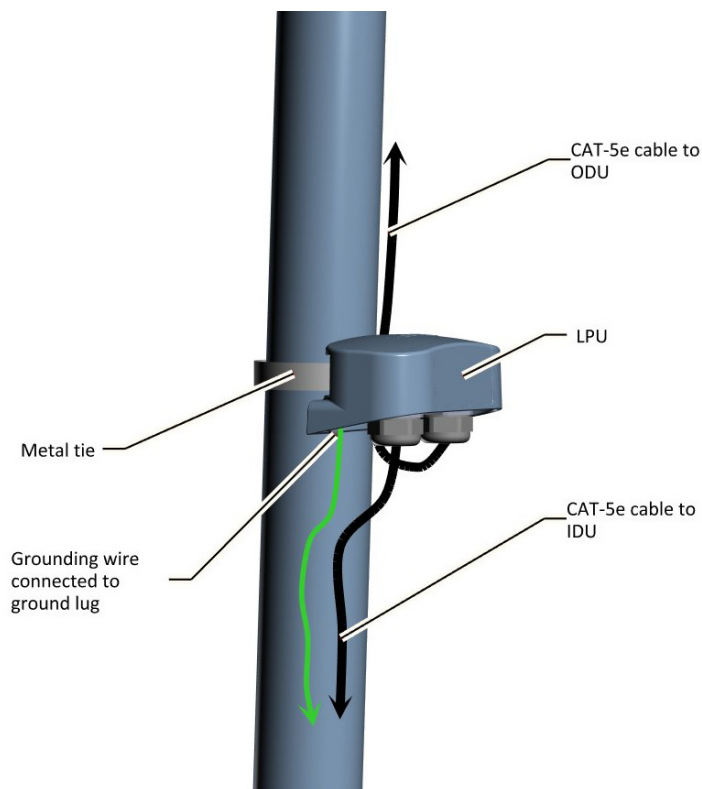

Figure 2-60: Installing an LPU on a pole (side view)
8. Route one CAT-5e/6 up to the radio, and the other down to the IDU or PoE (via the lower LPU). An LPU installed on a pole is shown in Figure 2-60.